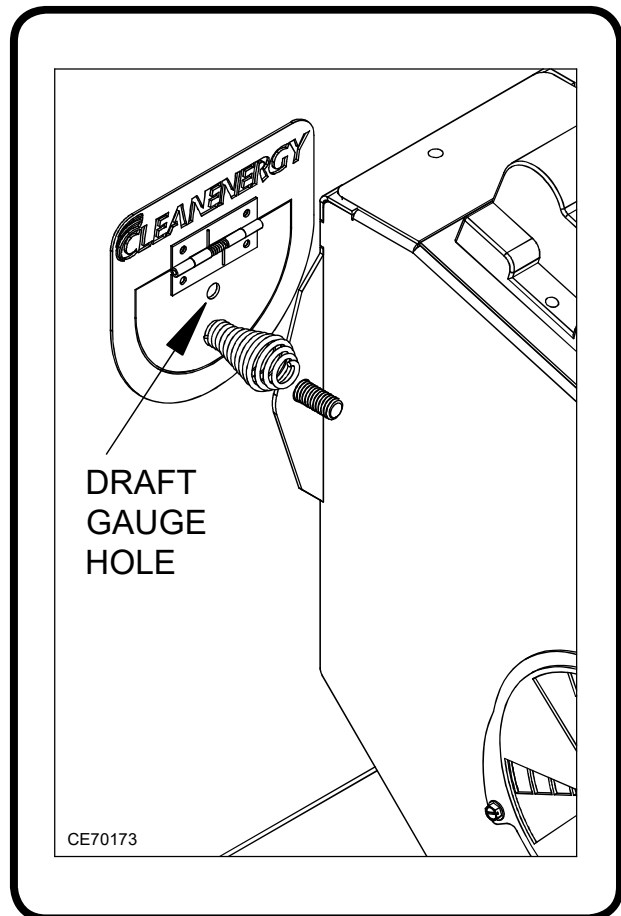

Figure 27: Draft Gauge Hole in the Observation Port
- (1) Allow the furnace to run for 5 to 10 minutes.
- (2) Refer to Figure 27 to locate the draft gauge hole.
- (3) Insert a draft gauge through the hole in the observation port. Follow the manufacturer's instructions for adjusting the barometric damper to obtain $-0.02''$ w.c. draft over fire.
- (4) If a proper draft is not obtained, follow the instructions below to check for a vacuum in your building.